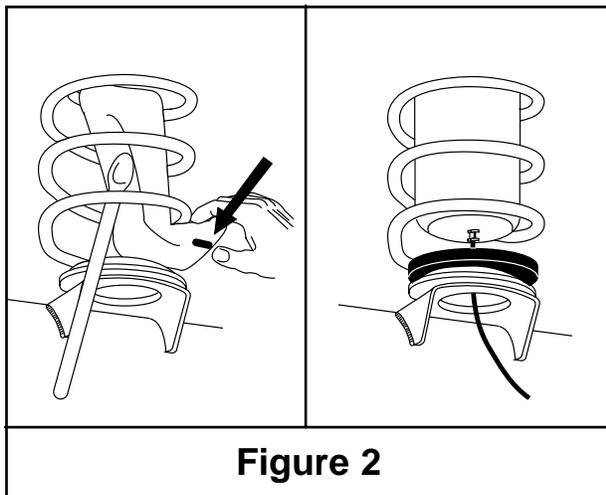

Figure 2
- B. Insert flattened air cylinder into lowest coil opening with stem at the bottom (Figure 2). Push the cylinder up within the coil by hand or with a BLUNT instrument such as a spoon-type tire iron.
- D. Push cylinder to the top of the coil spring. Insert lower protector through coil opening and center on axle spring seat (Figure 2).
If the vehicle has a rough and harsh ride it may be due to either too much pressure or not enough (fig. 2). Try different pressures to determine the best ride comfort.